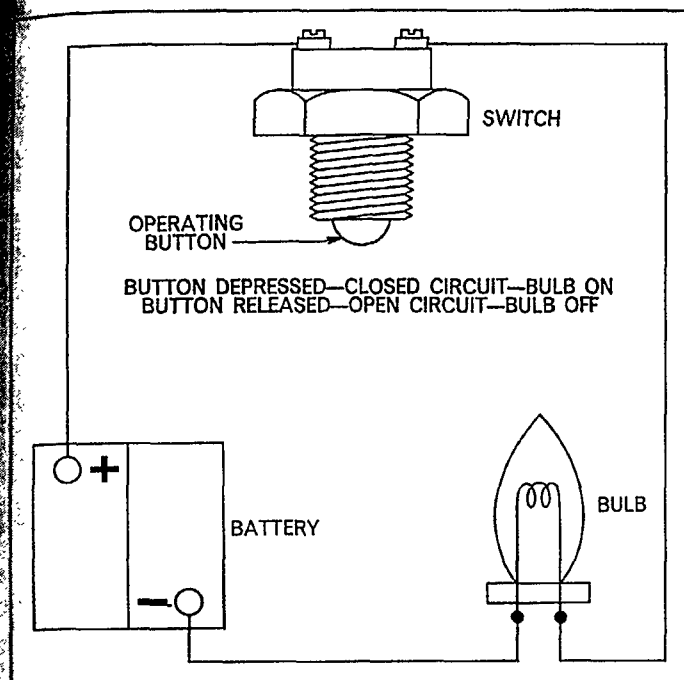

Figure 8
1. Using a suitable test bulb, wires and battery, Figure 8, test the starter safety switch for correct operation by depressing the operating button. This should close the circuit and light the test bulb. On releasing the operating button the test bulb should be extinguished. If the switch is faulty, install a new part.